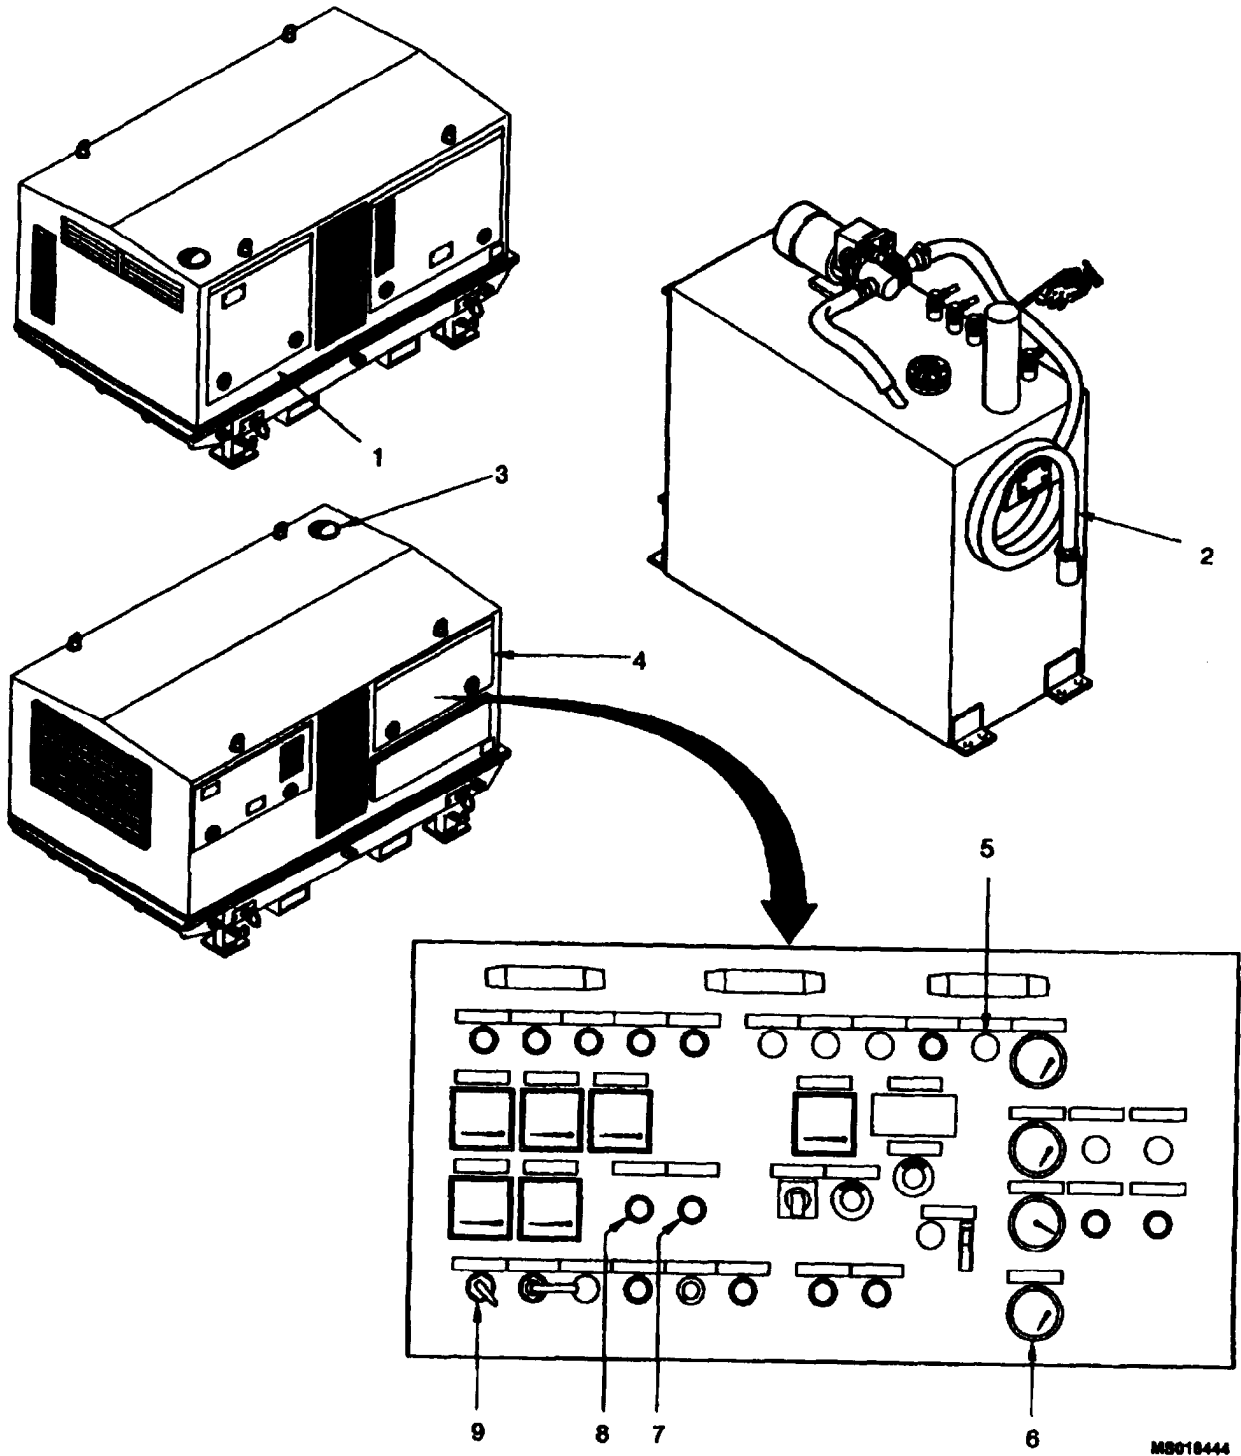

Figure 2-16 Refueling.
- d. After the proper amount of diesel fuel has been added, press FUEL TANK PUMP OFF pushbutton switch (8) or wait until fire tank pump automatically turns off when tank is full.
- a. Open flap (4, figure 2-16) and turn MASTER SWITCH (9) ON.
- b. Unscrew tank cap (3).
- d. Have a second person monitor and call out the fuel level from the FUEL LEVEL meter (6).